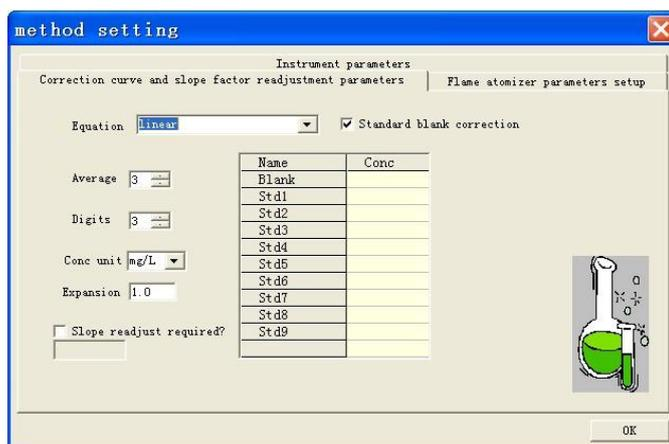

Figure 5-8
5. Press "OK" to confirm the quantitative analysis mode. Press "Setting" to enter the "Correction curve and slope factor readjustment parameters" screen, as shown in Figure 5-8.